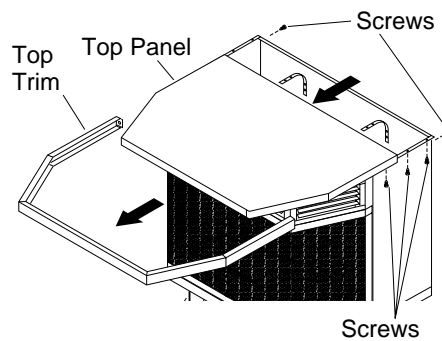

Figure 11 - Removing Stove Top Panel
1. Remove 2 screws from rear tabs on top trim. Pull trim forward to remove (see Figure 11).
2. Remove top panel of stove by removing three screws from under top lip on each side of stove (see Figure 11).
3. Facing front of stove, carefully slide top panel forward until it is completely removed from stove (see Figure 11).
- Remove 2 screws from rear tabs on top trim. Pull trim forward to remove (see Figure 11, page 10).
- Remove three screws from under top lip on each side of stove to remove top panel (see Figure 11, page 10).
- Facing front of stove, carefully slide top panel forward until it is completely removed from stove (see Figure 11, page 10).